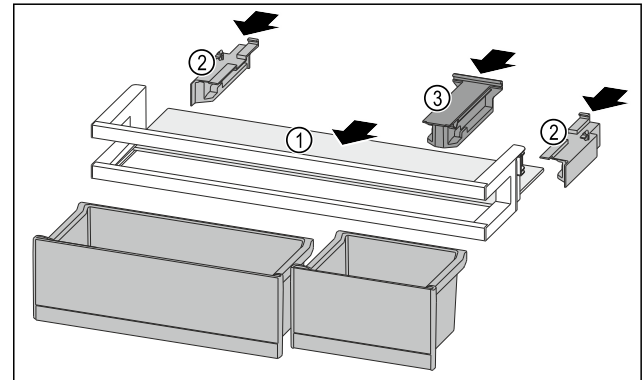

Fig. 134
- ▶ Push the shelf Fig. 134 (1) into the side recesses.
- ▶ Insert the side parts Fig. 134 (2).
- ▶ Insert the retainer part Fig. 134 (3).